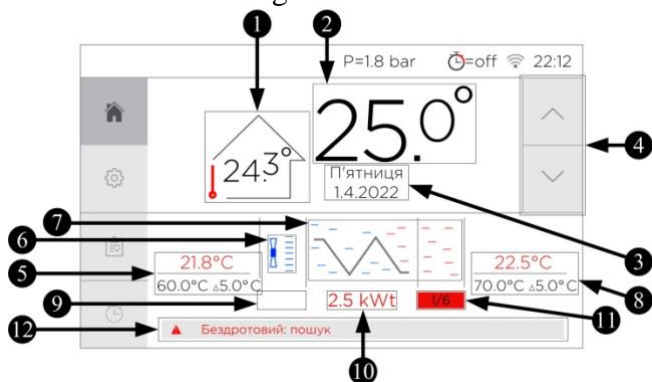

Figure 14.17 — ‘Home page’ submenu
The submenu is divided into 12 fields. Each field has its own number, which is shown as footnotes in Figure 14.17.
The field ⑫ informs about existing malfunctions in case of their occurrence, for example, as shown in Figure 14.17. When several malfunctions are detected, they are displayed one by one. If no faults are detected, this field remains empty.